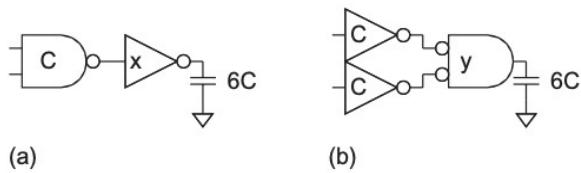

FIGURE 4.39 2-input AND gate
- 4.10 Consider the two designs of a 2-input AND gate shown in Figure 4.39. Give an intuitive argument about which will be faster. Back up your argument with a calculation of the path effort, delay, and input capacitances x and y to achieve this delay.
By comparing the two designs of a 2-input AND gate shown in Figure 4.39, circuit (a) should be faster than circuit (b). This is due to the fact that NAND gates require lower logical effort than the NOR.